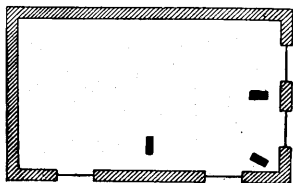

Fig. 1. Diagram, showing positions for camera.
The diagram (Fig. 1) shows the proper positions for the camera. It should not be pointed directly at a window, as the glare of light will blur the picture. If all the windows cannot be avoided, pull down the shades of such as come within range of the camera.
Push the time slide (A) to the end of slot marked "T," Fig. 1, page 10. When the lever is in this position the shutter strikes it as it passes the lens, stopping halfway across with the opening opposite the lens.